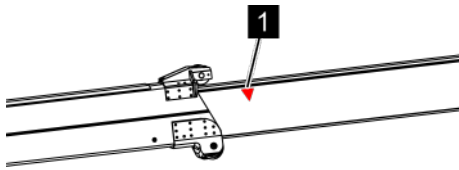

Fig. 123: Red arrows
- Always only retract the telescopic arm until the red arrows (Fig. 123/1) on the bearings are no longer visible.